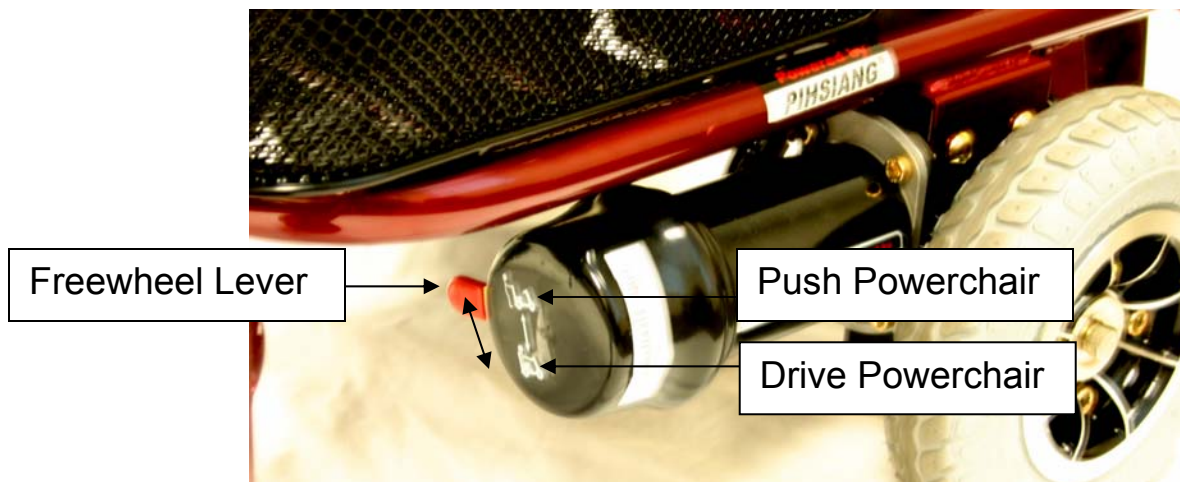

Figure 3
2. Ensure the wheels are locked in drive mode (Fig 3)